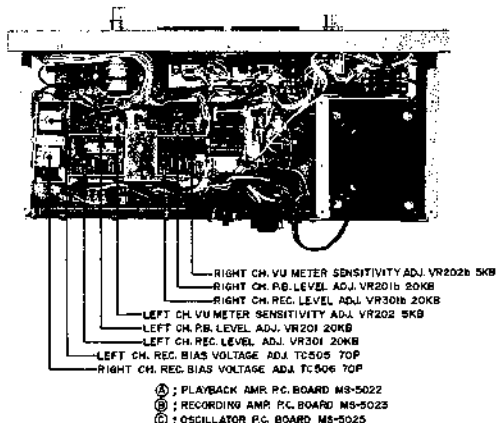

Fig. 20
After the playback output level adjustment has been completed, adjust P.B. Amp. P.C. Board VU meter sensitivity adjustment semi-fixed resistors VR202 5kΩ (Left Channel) and VR202b 5kΩ (Right Channel) shown in Fig. 20 to obtain a VU meter indication of "0" VU on both channels.
- 5) Adjust P.B. Amp. P.C. Board playback level adjustment semi-fixed resistors VR201 20kΩ (Left Channel) and VR201b 20kΩ (Right Channel) shown in Fig. 20 to obtain a High Sensitivity V.T.V.M. indication of 4 dB (1.228 V)